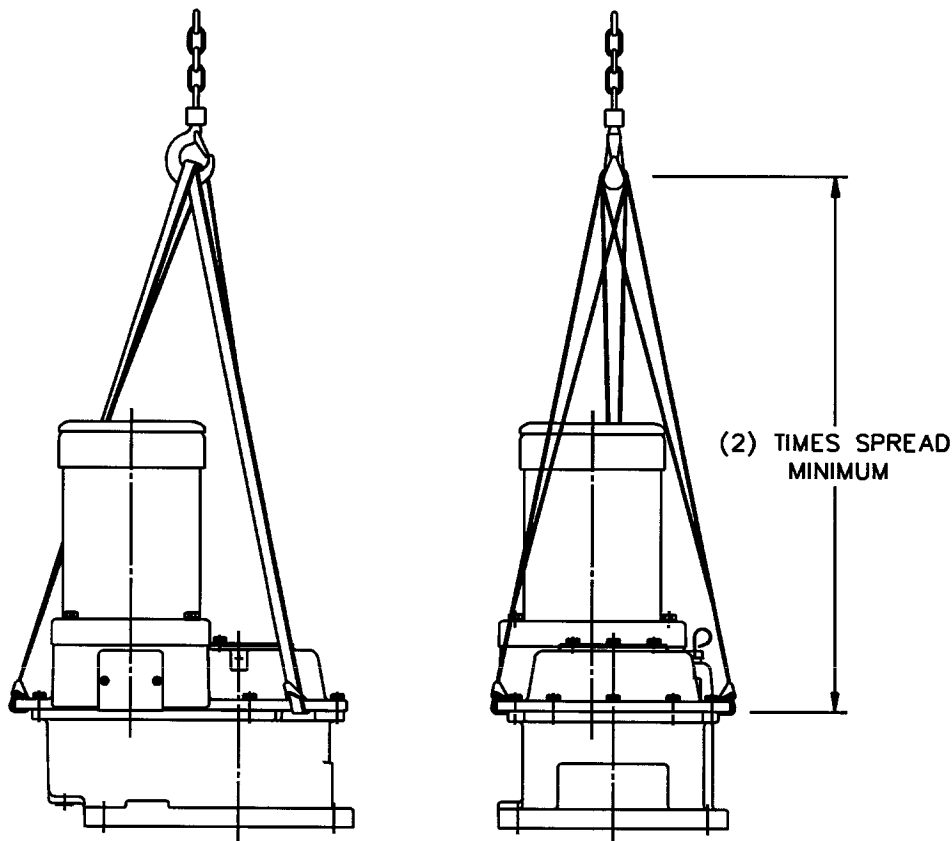

Figure 7: Agitator Lifting System
2. Remove all shipping restraints. A hoist or crane system for the lifting of the agitator parts must be available. Refer to *Figure 7, page 14* for lifting instructions. The approximate net weight of the unit is shown on the unit assembly drawing.
13. Lift and suspend the agitator drive assembly (Figure 7, page 14) over the extension shaft coupling half close enough to allow installation of coupling bolts and lockwashers [359,360]. Install two bolts at 180°. Tighten the bolts to engage the tenon and pull the coupling faces together.